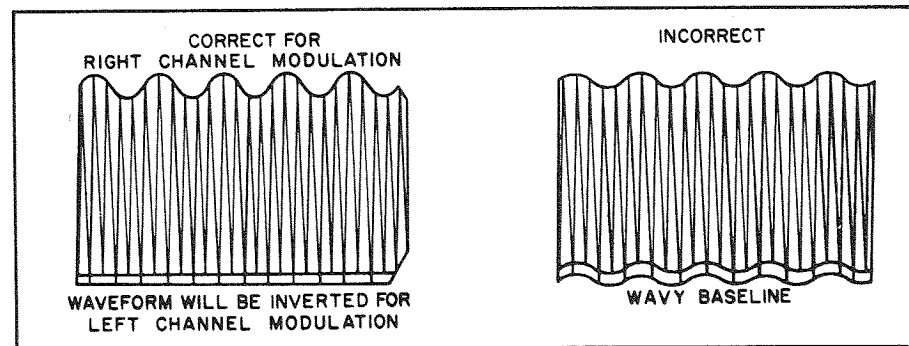

Figure 7. Waveform At Test Point 402.
- (6) Turn R107 SEPARATION CONTROL (on PREAMPLIFIER board) CW to maximum resistance setting. Adjust core of Z403 (on FM IF, MPX, METER board) for maximum gain and as straight a base-line as possible on scope (see Figure 7). AC VTVM should read minimum.
- (7) With MPX generator modulated on right channel only, connect AC VTVM to Right OUT TO EXT RCDR jack. Record reading on AC VTVM.
- (8) Set MPX generator to modulate left channel only. Adjust R107 SEPARATION CONTROL (on PREAMPLIFIER board)
- for minimum reading on AC VTVM; at least 30 dB below reading recorded in step (7). Record reading.
- (9) Connect AC VTVM to Left OUT TO EXT RCDR jack. Same reading  $\pm 2$  dB as recorded in step (7).
- (10) Set MPX generator to modulate right channel only. Same reading  $\pm 3$  dB as recorded in step (8).